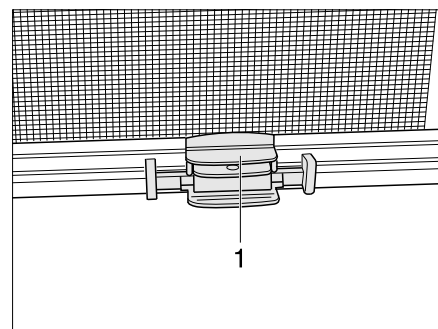

Fig. 54 Blind
- Grip the end rod (Fig. 54,1) of the roller insect screen in the middle and move it to the end rod of the blind.
- Hold the end rod (Fig. 54,1) of the roller insect screen and press the latch.